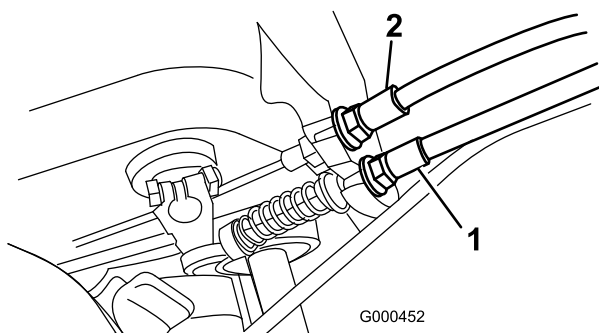

Figure 29
2. To increase cable tension, loosen front cable jam nut and tighten back cable jam nut (Figure 29) until a force of 11–14 lb. is required to engage brake. Force to be measured at lever knob. Do not over adjust, or brake band may drag.